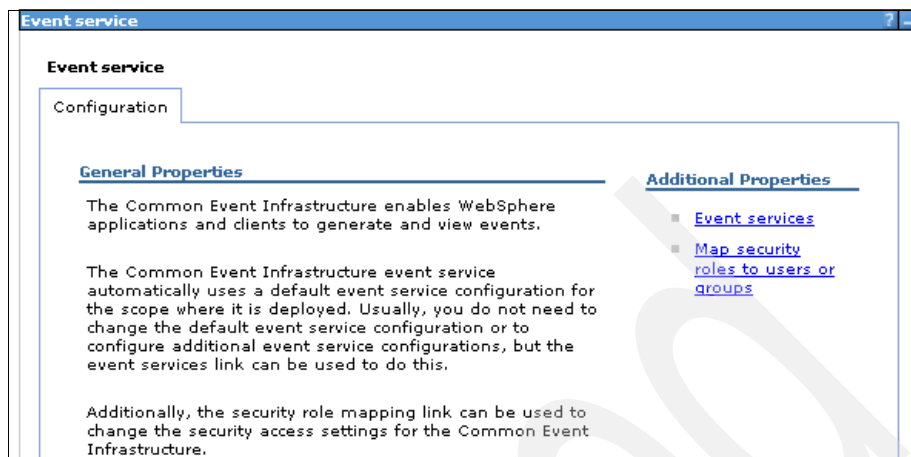

Figure 6-35 Event service
2. In the right pane, under Additional Properties (Figure 6-35 on page 288), click **Map security roles to users or groups**.